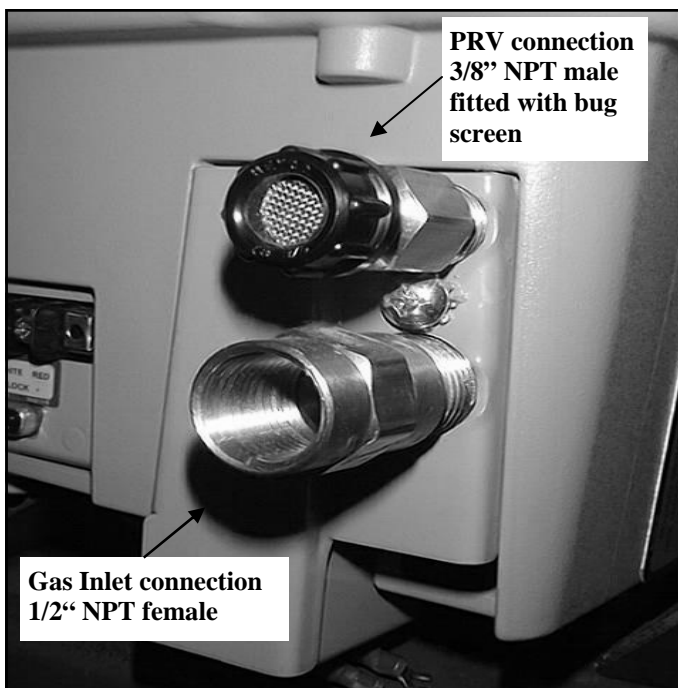

Figure 11 Gas Inlet and PRV Connections
- Connect the gas supply line to *Phill's* 1/2" NPT female gas inlet connection (*see Figure 11*) using approved pipe, tubing or flexible hose and appropriate adaptors and fittings.
2. Use appropriate fittings to connect the vent line to the male 3/8" NPT male connection of *Phill*. (See Figure 11)